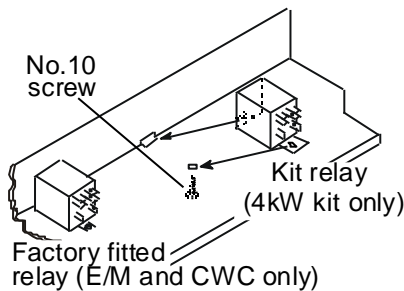

Fig. 3
- 3. Fit the kit relay to the internal electric tray using the No.10 screw. **(Fig. 3).**